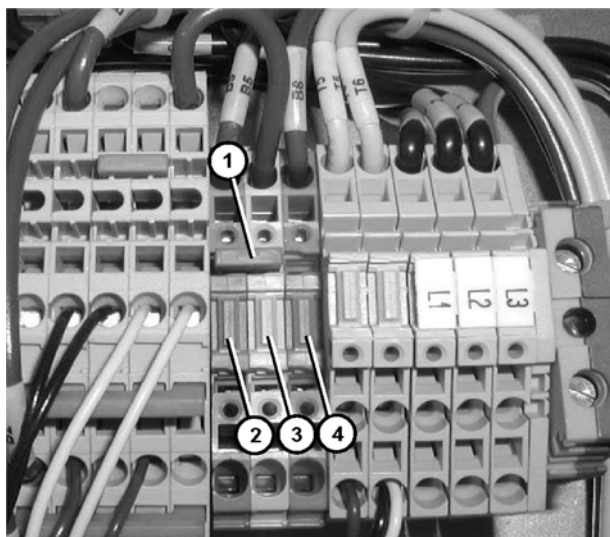

Figure 14
For forward belt movement, install the orange jumper (**Figure 14, item 1**) between the blue terminal (**Figure 14, item 2**) and white terminal (**Figure 14, item 3**), the left two terminals. For reverse belt movement, install the orange jumper between the orange terminal (**Figure 14, item 4**) and the white terminal (**Figure 14, item 3**), the right two terminals. (This jumper is removed when direction is controlled from the remote machine interface terminals.